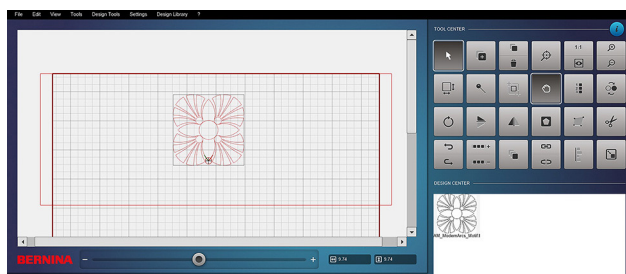

Fig. 30
4. Note that Grab and Drop has been automatically activated. Move the sewhead and the design will move with it (Fig. 30).